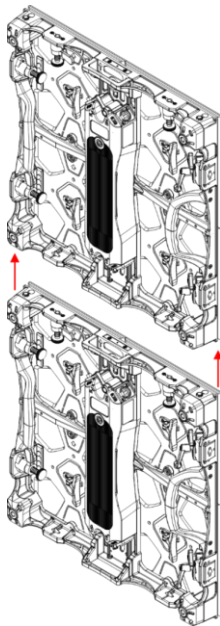
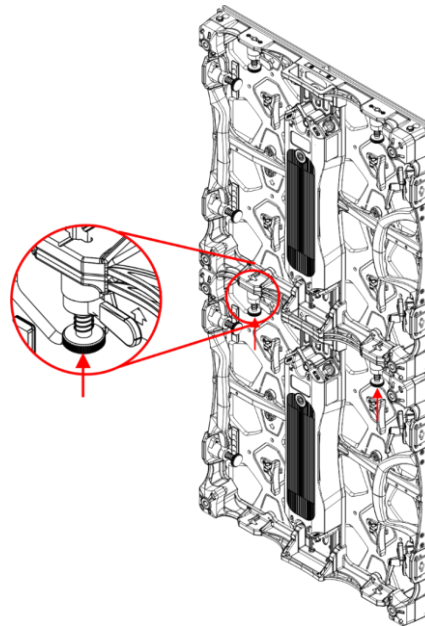

Fig. 39
Fig. 40
- 01) Put another screen below the first screen and let the magnetic top of the second screen snap to the bottom of the first screen, as shown in Fig. 39.
- 02) Turn **lever (A)** of the left **locking mechanism (06)** counterclockwise.
- 03) Push the left **spring-loaded fast-lock (B)** of the left **locking mechanism (06)** of the LED screen upwards and turn it by 90° clockwise or counterclockwise, as shown in Fig. 40 and 41.